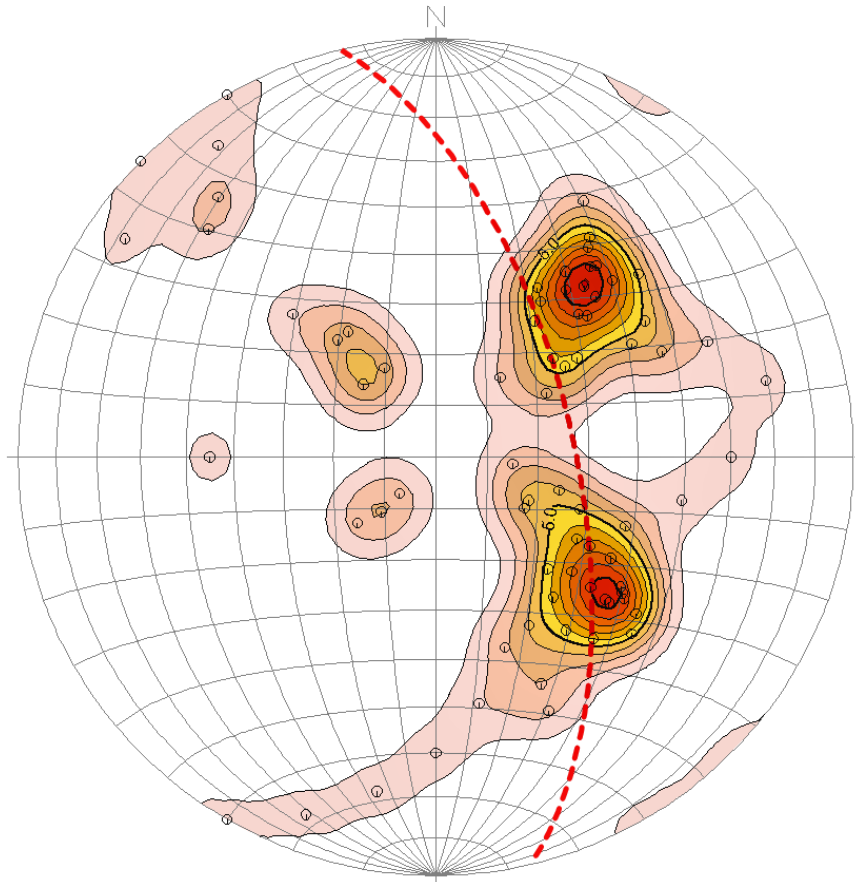

Figure 13
- Click the *Continue* button and a stereonet (Figure 13), depicting all of the fractures within the enabled boreholes will be displayed. In this example, the program was configured to plot a *Best-Fit Great Circle* as a thick red dashed polyline.